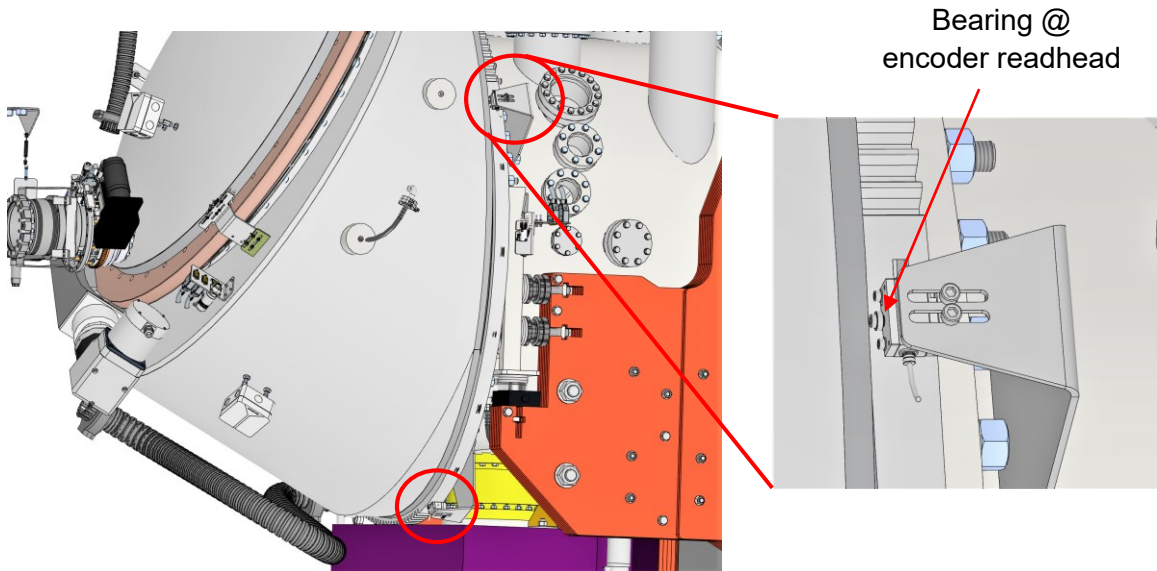

Figure 33: Encoder readheads at the TRF1 motion axis
18. At this point all encoder readheads and limit switches can be adjusted. The TRF1 motion axis has two encoder readheads, see left hand side of Figure 33. At both readheads there is a wheel (bearing) available, that keeps the distance to the encoder scale constant during axis movement. The wheel must be mounted slightly pre-tensioned.